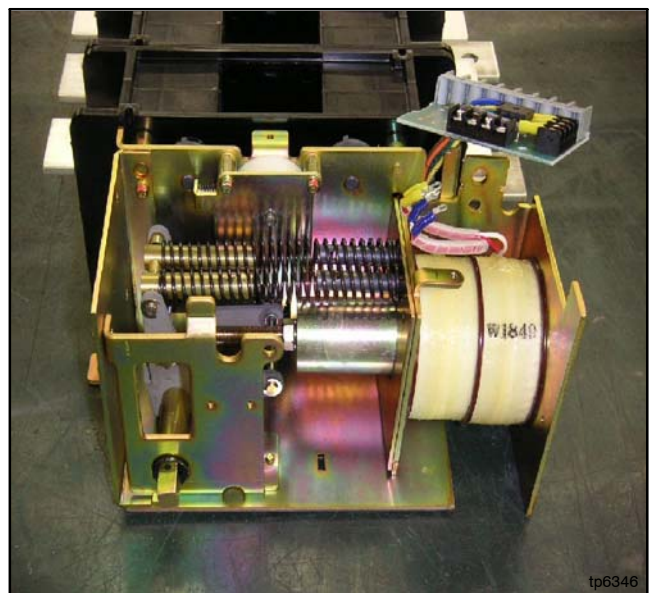
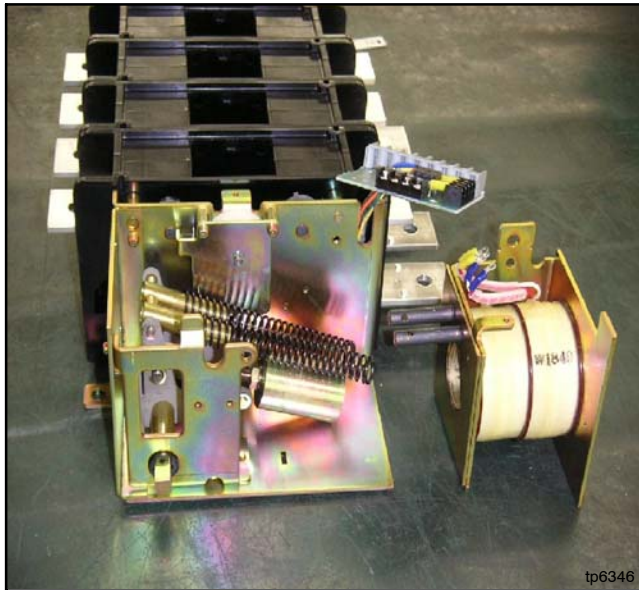

Figure 7-29 Remove the frame with the coil from the mechanical unit
Figure 7-30 Coil and frame removed
3. Remove the frame with the coil from the mechanical unit. See Figure 7-29 and Figure 7-30.